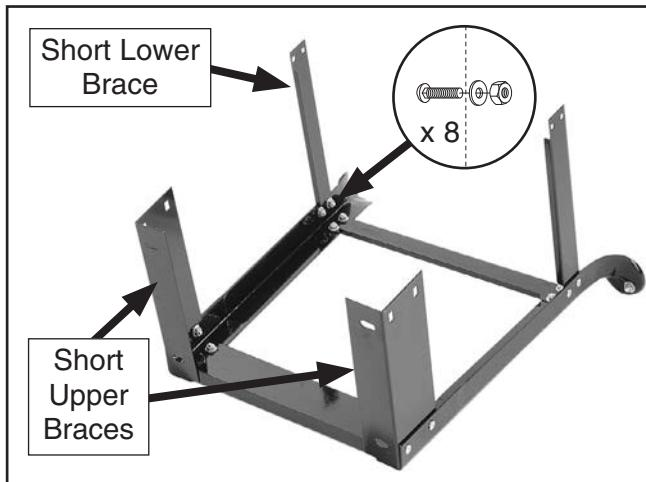

Figure 15. Short upper and lower braces fastened to leg assembly.
5. Fasten the two short upper braces and the two short lower braces to one of the leg assemblies with the (8) $\frac{5}{16}$ "-18 x $\frac{1}{2}$ " carriage bolts, $\frac{5}{16}$ "-18 hex nuts, and $\frac{5}{16}$ " flat washers, as shown in **Figure 15**.